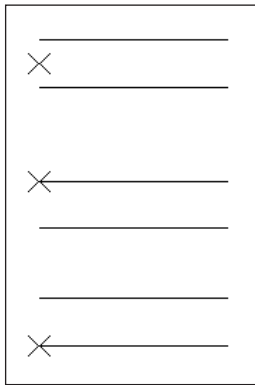

Figure 16-39: Drawing a multiline using the Standard multiline style in zero, top, and bottom justification
case with the Standard multiline style. The top example in Figure 16-39 shows the Standard multiline style with zero justification.
- Top places the line with the highest positive offset at the pick point. The middle example in Figure 16-39 shows the Standard multiline style with top justification.
- Bottom places the line with the highest negative offset at the pick point. The bottom example in Figure 16-39 shows the Standard multiline style with bottom justification.